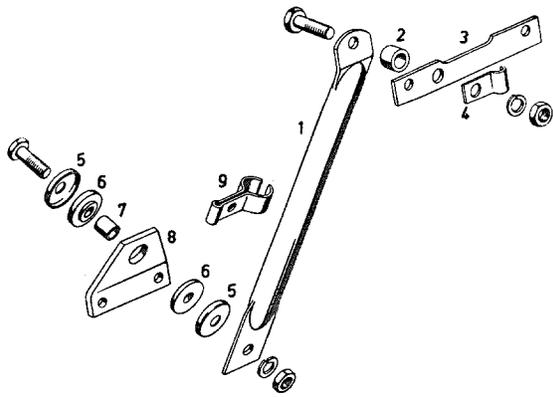

Fig. 01-4/10
- Check the gaskets of the air suction tube and, if necessary, replace them. Place the air suction tube (1) on the carburetors and the upper part of the filter (3) together with air hose (2) on the air filter and close the snap catches (5) (see Fig. 01-4/7).
Screw on the air suction tube. Then attach the rubber hose (4) to the vent tube of the cylinder head cover (see Fig. 01-4/7). Attach the return spring (3) for the accelerator linkage (see Fig. 01-4/5).
- Screw the strut supporting the carburetors to the air suction tube (Fig. 01-4/10).